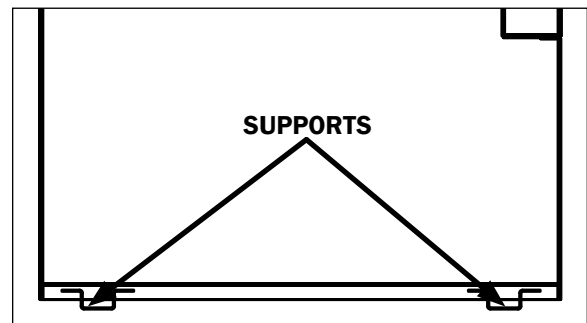

Fig. 2 Horizontal supports
7. Locate horizontal or vertical (caster) support positions along the chalk line (Fig. 2). Spot properly leveled shim packs at each support location.